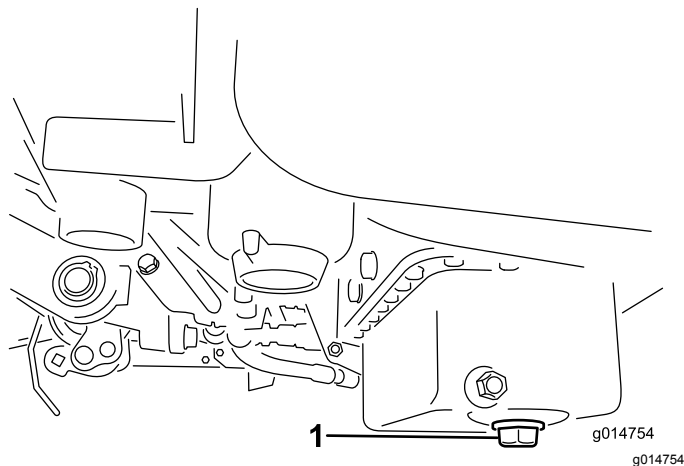

Figure 40
1. Remove the drain plug and let oil flow into a drain pan. When the oil stops, install the drain plug (Figure 40).